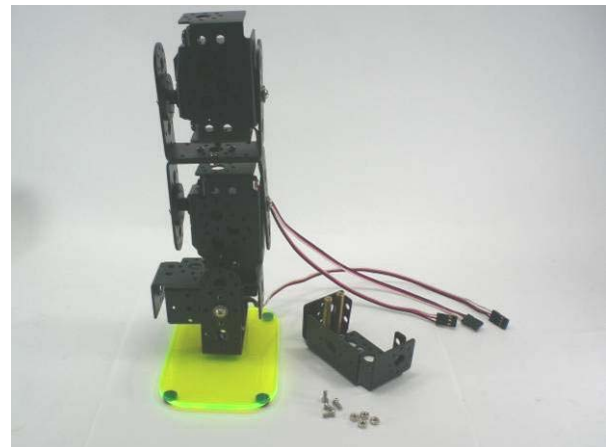

Figure 76
23. Prepare the components as shown in figure 76. Uncompleted leg, the servo bracket (step 22) and 4 sets of A screw.